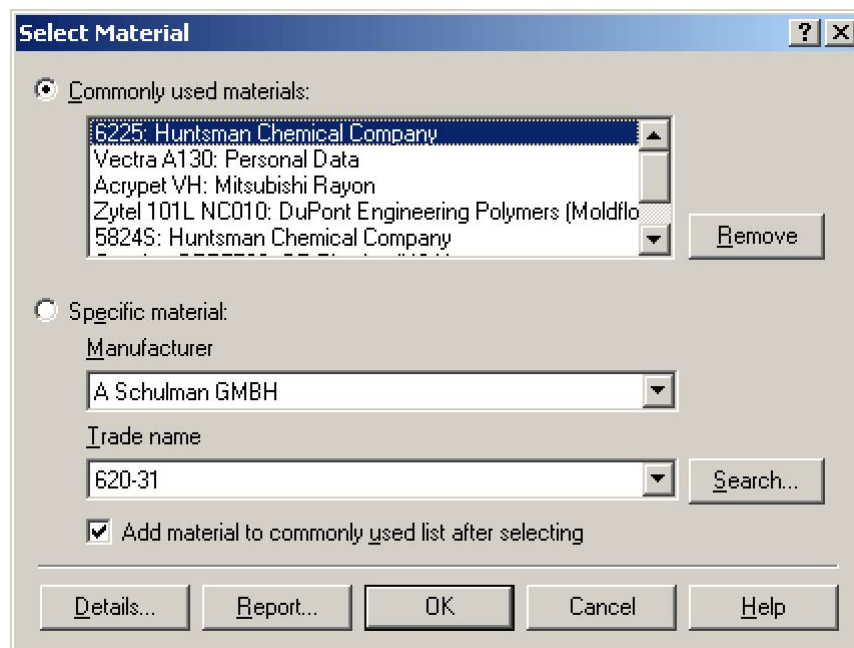

Figure 288: Select Material dialog
The **Select Material** dialog, shown in Figure 288, allows you to select the material to be used in an analysis. It is your access point to the extensive material database supplied with MPI. You can use this dialog to plot the properties of a material, search for a specific material, select a material, and add the material to a commonly used materials list. The
- Clicking the **Details** button on the Select material dialog, shown in Figure 288 on page 405.